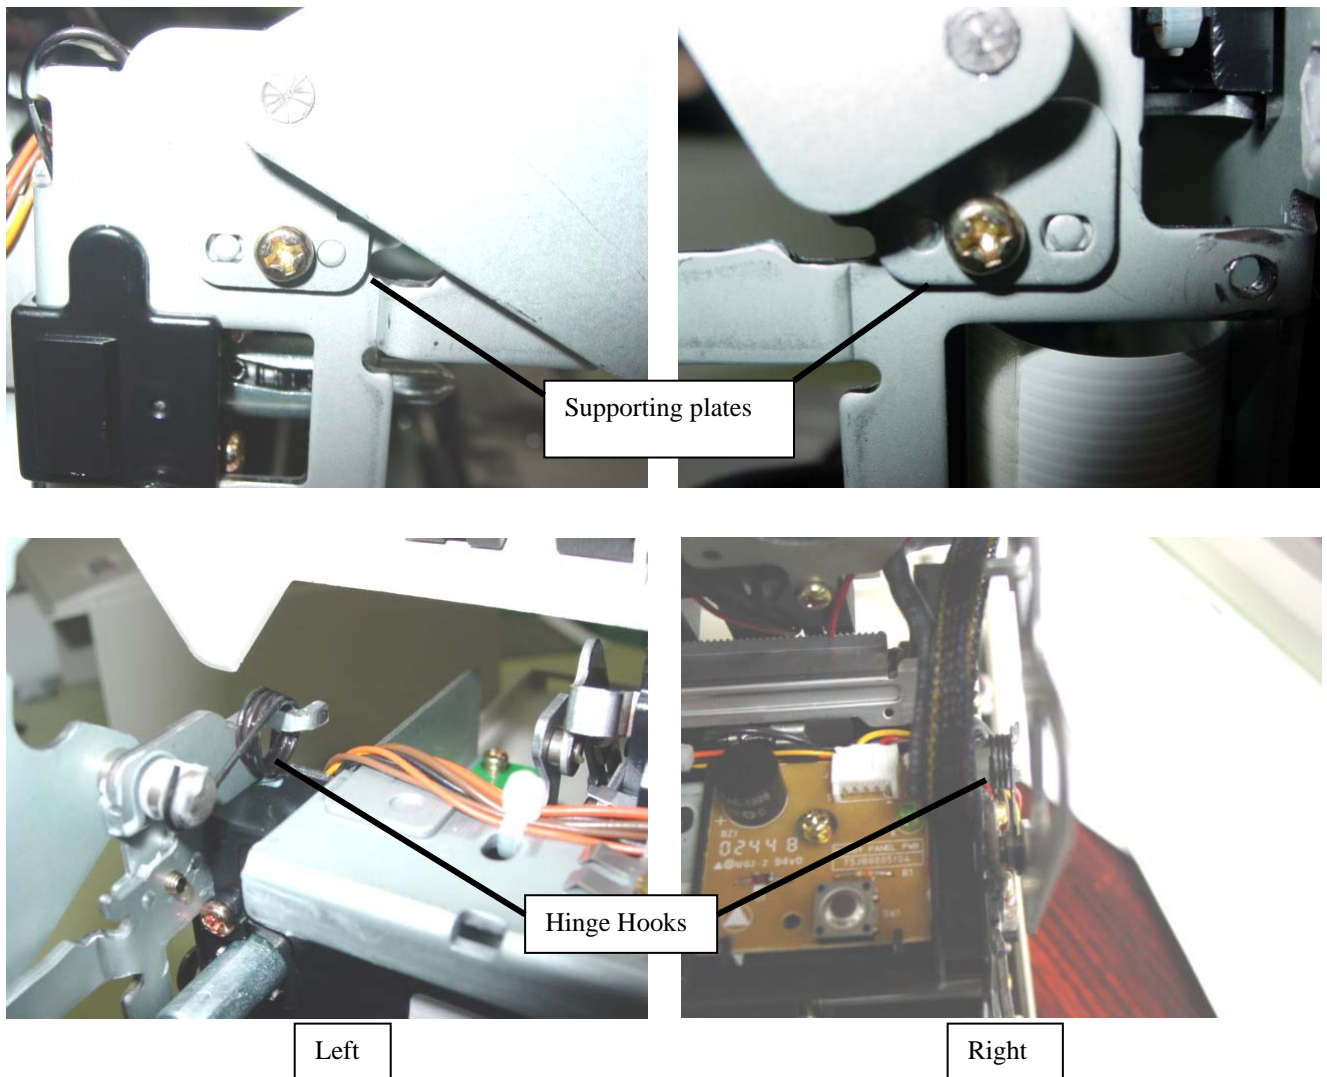

Figure 13 - Assembling supporting plates and hinge hooks
1. Assemble the Check Scanner Mechanism (part 1) to the Slip Station Assembly, fastening the original two supporting plates with M3x5 pan head screws, and replacing the original two hinge hooks. (Figure 13)